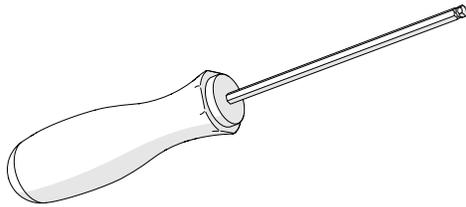
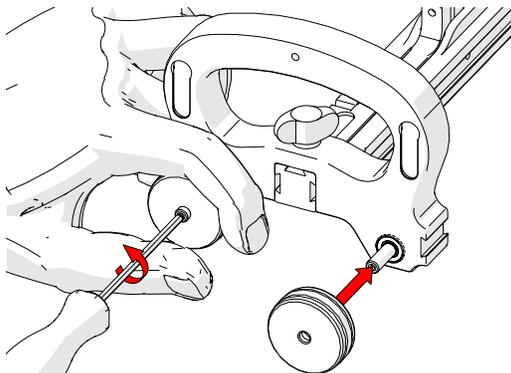

Fig. 14 - 3 mm hex driver
Fig. 30 - Wheel installation
The 3 mm hex driver (*Fig. 14*) is sufficient for all typical operations and adjustments of the **STIX**.
4. Tightly grip the magnetic wheel by hand and, using the supplied 3 mm hex driver (Fig. 14), tighten the magnetic wheel to the axle (Fig. 30).